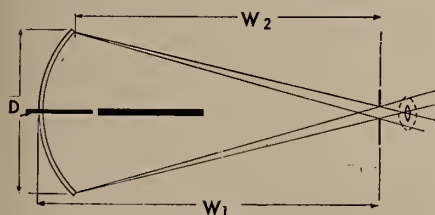
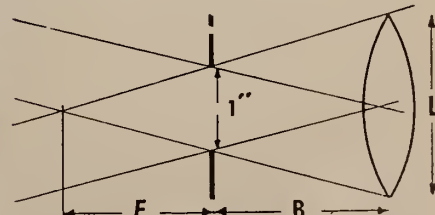

FIGURE 1
FIGURE 2
Consider Fig. 1: obviously the smaller lens is not picking up all the light in the beam from the mirror, consequently any increase in lens aperture will increase the amount of light reaching the screen. If on the other hand the lens were of larger diameter, as shown in dotted lines, it would be picking up the whole of the directly transmitted beam, and any further increase in diameter would, on the face of it, result in passing no more light. This may not be strictly true, but for the moment we will accept it.
Let us next turn to the arc mirror. By analogy with the lens the mirror may be given an  $F$  value, which is frequently calculated as the working distance  $W_1$  divided by the diameter (Fig. 1). But obviously it is more correctly expressed as  $W_2 : D$ . Naturally, we should not speak of focal length, as in the case of a lens, because the mirror never works at infinity; *working distance* is the correct term.
Geometry proves that this is perfectly true for the center of the gate aperture. But, equally, Fig. 1 proves that it is far
What does this prove? It proves that the edges of the picture are illuminated chiefly by rays of light from the edges of the mirror. If, therefore, our lens aperture is too small to pick up all these marginal rays, the effect of vignetting will be considerably greater than Fig. 1 would suggest.
From these arguments it would seem logical to suggest that projection lenses should no longer be rated in  $F$  values. What matters is: (1) the actual diameter of the back glass; (2) the back focal distance  $B$  in Fig. 2; (3) the ability of the lens to pass the beam of light from a mirror of given  $F$  value when the back glass is completely filled,
None of these factors can, as far as my limited optical knowledge goes, be ascertained by orthodox optical formulae. A basis of calculation is indicated in Fig. 2, which is an enlargement of the right-hand section of Fig. 1.